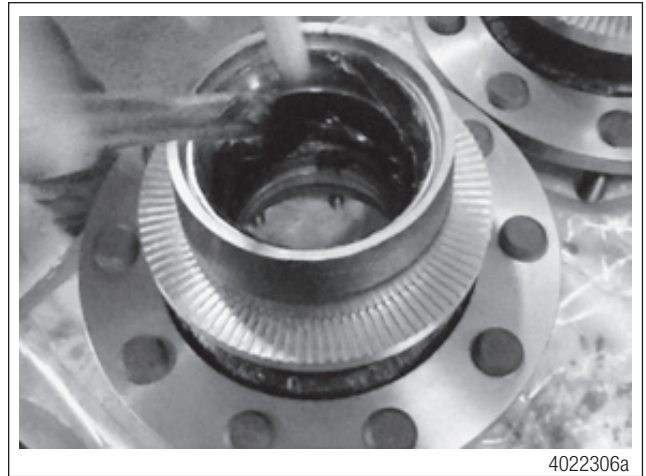

Figure 18
2. Thoroughly pack both bearing cones, and coat the inside surfaces of the hub and bearing cups with grease. Figure 18.